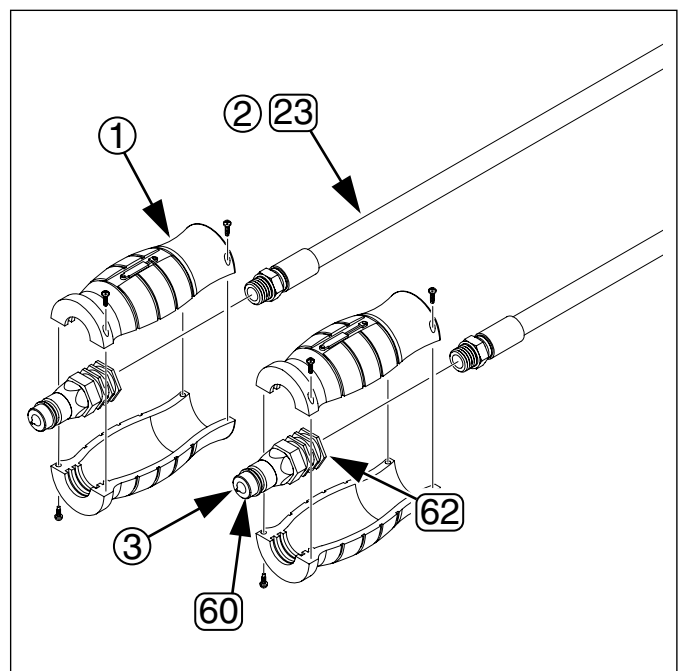

Figure 6 2012+
Refer to Figure 6
- Extended cylinder icon (upper left handle in *Figure 6*)
- Retracted cylinder icon (upper right handle in *Figure 6*)
- No icon (lower handles halves in *Figure 6*)